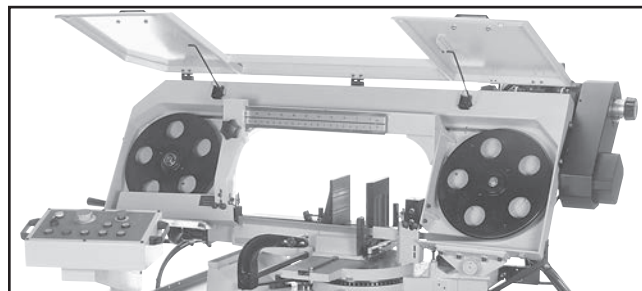

Figure 21. Wheel cover locked in "up" position.
18. Open blade cover and lock in position (see **Figure 21**). This activates blade cover safety switch to prevent saw starting.